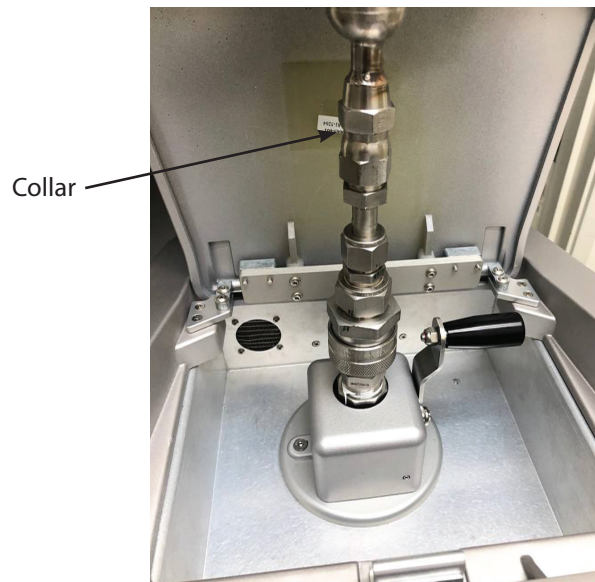

Figure 78 – Inserting The Fill Tube Into The Fill Port
9. Connect the Liquid N2 Hose from the tank by inserting the Fill Tube into the port (*Figure 78*).